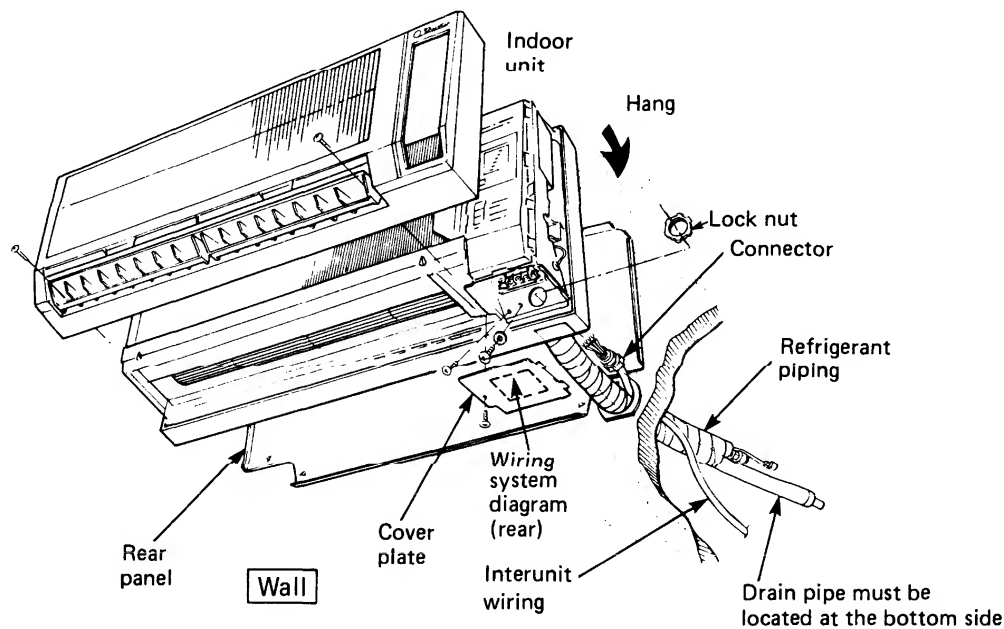

Fig. 16
- Hang the indoor unit on the rear panel. Fig. 16 (next page)